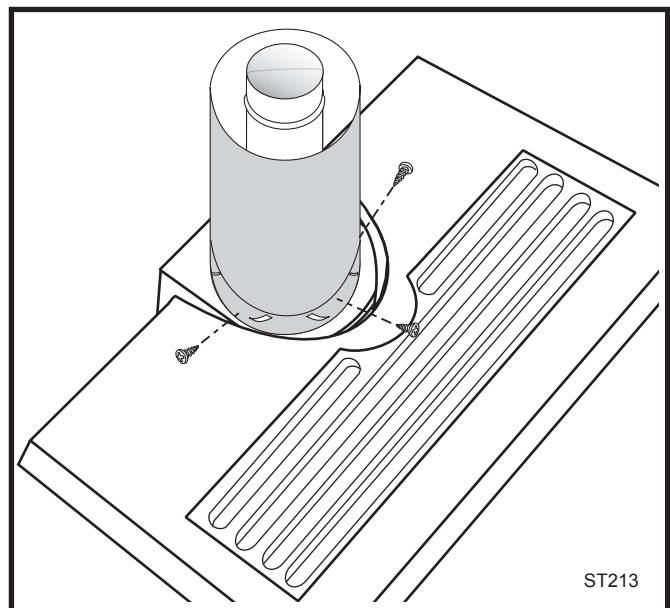

Fig. 19 Fasten outer pipe with #12 x 1/2" sheet metal screws.
- 5. Install the Outer Adapter Pipe.** Insert the pipe over the stove flue collar, keeping the vertical seam oriented to the back of the stove. Also, be sure to align holes on the pipe with the holes on the flue collar of the firebox. Fasten the pipe to the holes in the flue collar with the #12 x 1/2" sheet metal screws provided. (Fig. 19)